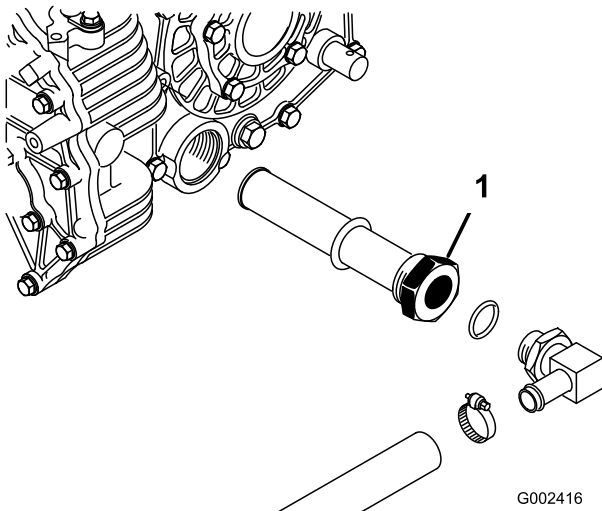

Figure 69
3. Note the orientation of the hydraulic hose and 90 degree fitting connected to the strainer on the side of the reservoir (Figure 69). Remove the hydraulic hose and 90 degree fitting.